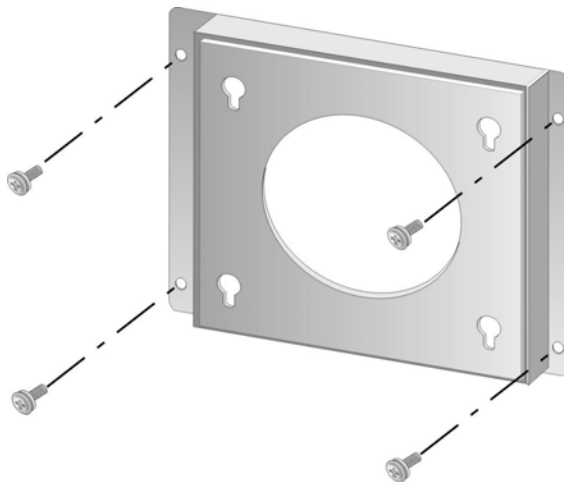

Figure 3-23: Wall-mounting Bracket
- Step 5:** Secure the mounting-bracket to the wall by inserting the retention screws into the four pilot holes and tightening them (**Figure 3-23**).